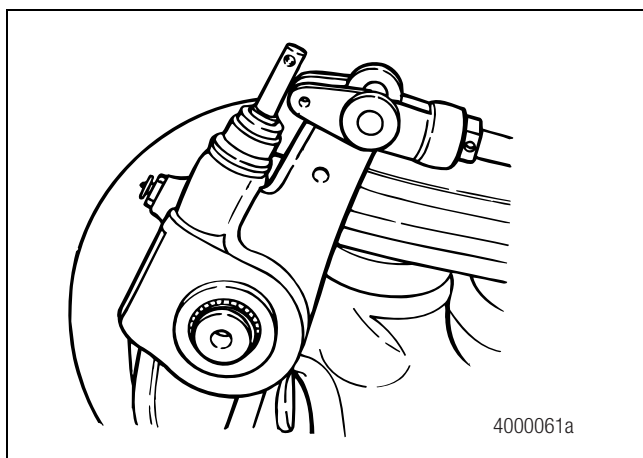

Figure 6.20
2. Install the inner washer onto the camshaft, then install the slack adjuster onto the camshaft. Figure 6.20.